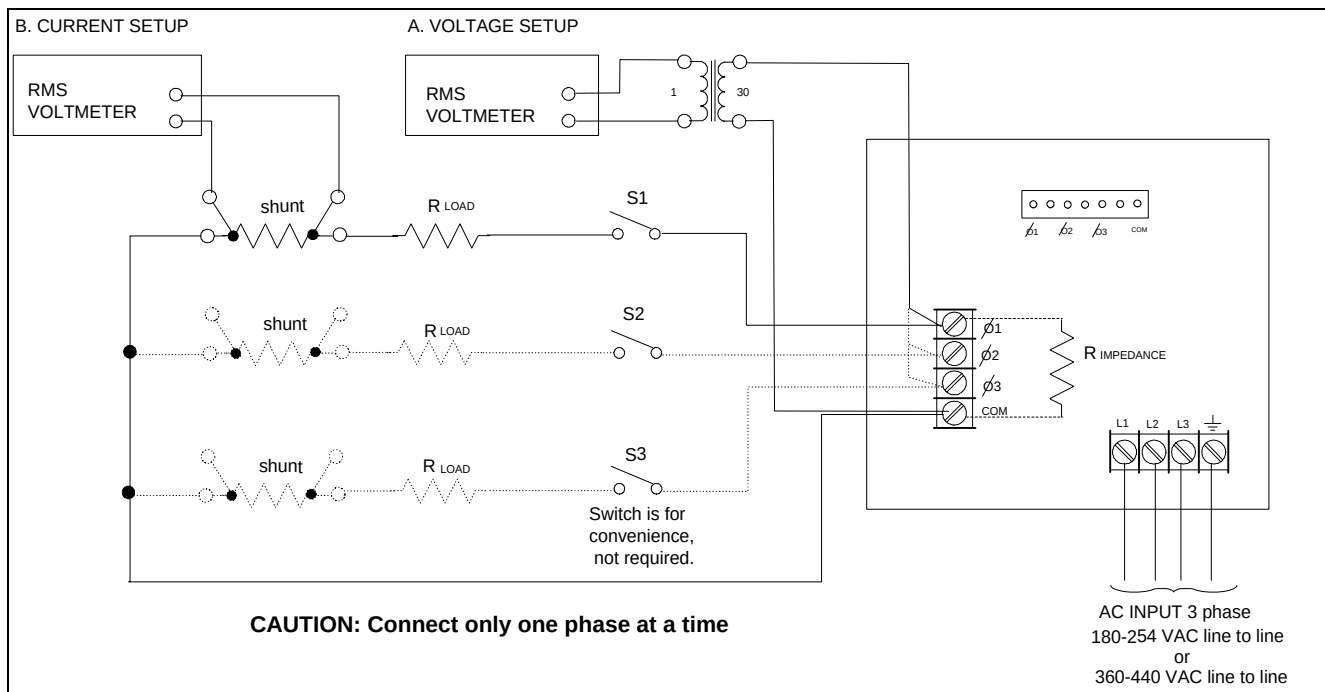

Figure B-1. Verification & Calibration Test Setup
Figure B-1 shows the setup for the tests. Be certain to use load leads of sufficient wire gauge to carry the **full** output current (see Chapter 2).
Figure B-1 shows the setup. Measure the ac output voltage directly at the output terminals. **If you are verifying a three-phase source**, start by verifying output phase 1.
1. Make sure the ac source is turned off. Connect the DVM and ratio transformer as shown in the test setup in Figure B-1.
1. Turn off the ac source. Connect the load resistor, current shunt, and the DVM across the current shunt as shown in Figure B-1. Use the following load resistor values: Agilent 6814B = 7.5Ω; Agilent 6834B = 15Ω; Agilent 6843A = 5Ω
Table B-1 lists the equipment required for calibration. Figure B-1 shows the test setup.
4. Connect the DVM (ac volts mode) directly to the ac source via the ratio transformer shown in Figure B-1. Do not connect the load resistor or current shunt.